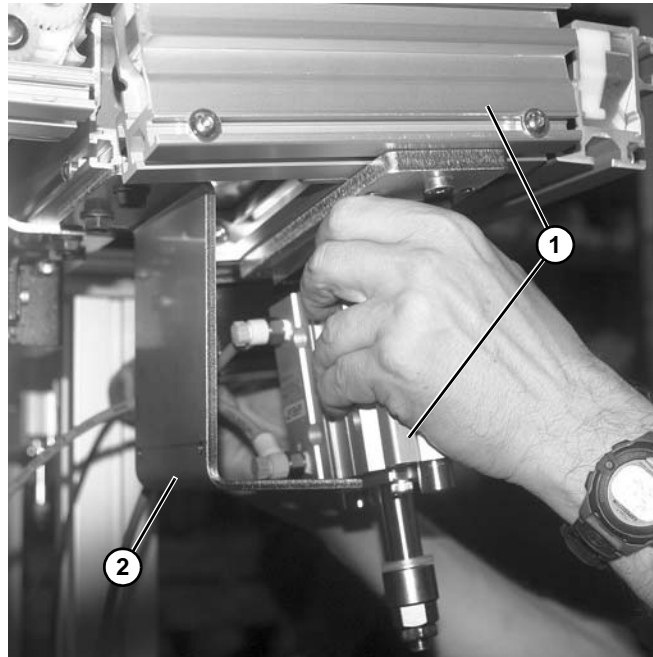

Figure 112
10. Remove lift and transfer section and cylinder (**Figure 112, item 1**) from bracket (**Figure 112, item 2**) on conveyor.